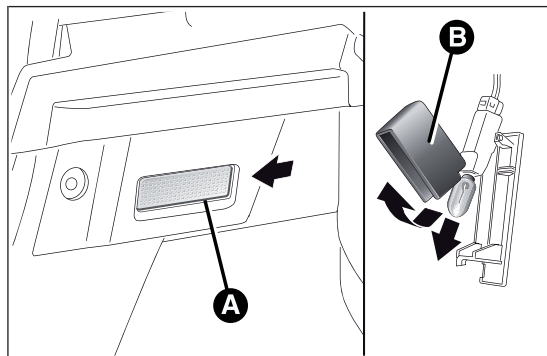

fig. 143
- ☐ open the luggage compartment and extract the roof light A fig. 143 working in the point shown by the arrow;